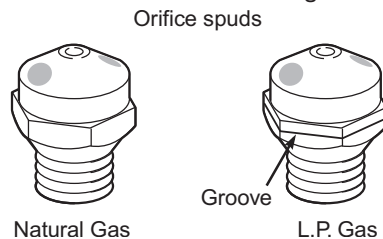

Figure 10
5. Remove the cardboard orifice spud holder located on the back of the range near gas inlet. See Figure 10. Orifice spuds are stamped with a number, marked with two color dots, and have a groove in hex area. Apply masking tape to the end of a 5/16 nut driver to fit snugly over the orifice spud. Press driver down onto the spud of the left front burner and remove by turning spud counter-clockwise and lifting it out.